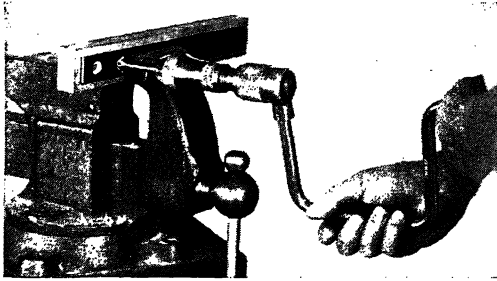

Fig. 83. Using a brace with a countersink bit
*Brace.* Use the ordinary woodworkers' brace. A brace with a wide swing gives more power. Use a brace when plenty of room is available, when the hole is large, and drilling must be done by hand. Figure 83
Holes are countersunk to receive the tapered heads of screws, bolts, or rivets, so that the surface may be entirely flat. To countersink by hand, use the brace and a rose countersink bit as shown in Figure 83. Back up